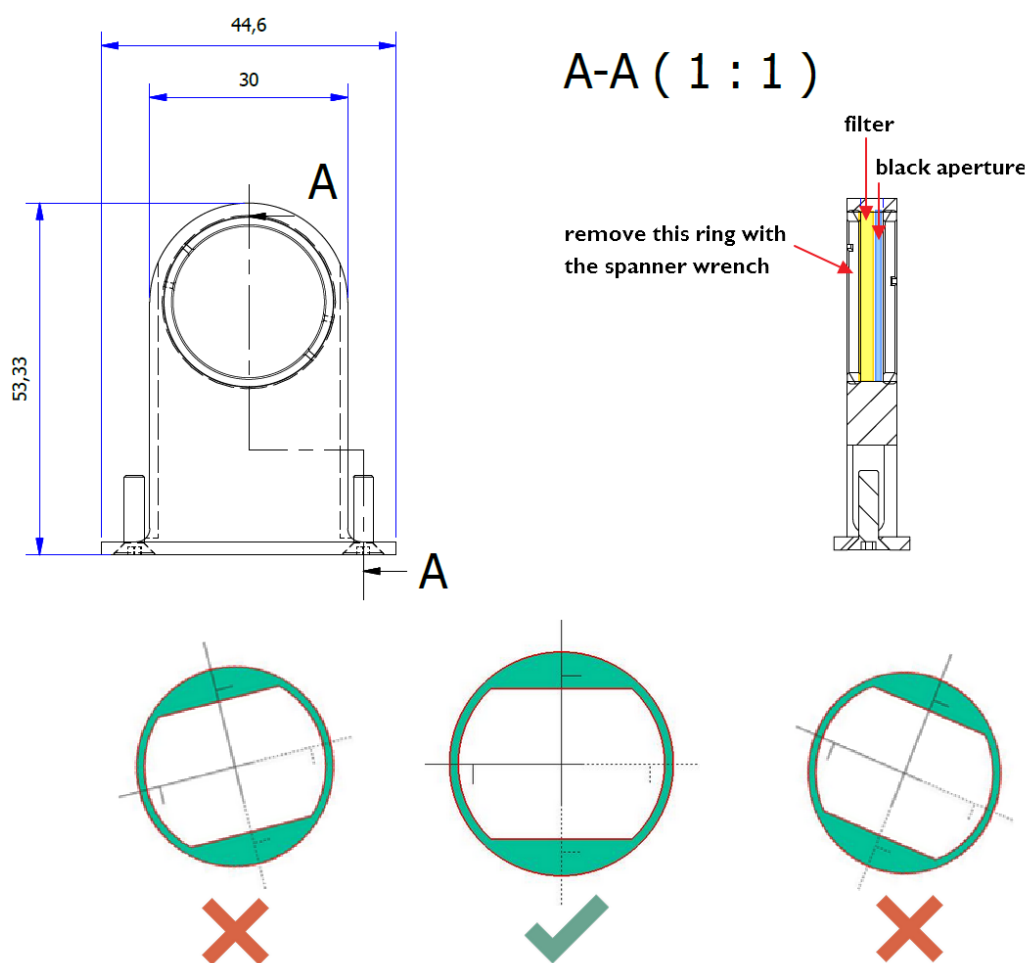

Figure 36 Filter cassette schematics, with position of the filter indicated. The bottom section of the figure shows the correct position of the black aperture.
Step 5.2 Mount/change filter (Figure 35, Figure 36)
- d. Wear gloves. Place the cassette, with the black aperture side, down onto a stable surface. The bottom side is the side that was closest to the sensor, the top side was closest to the lens. Use the spanner wrench to carefully unscrew the retaining ring, as indicated on Figure 36.
Place the filter cassette in the upright position, as shown in Figure 36. Check if the black aperture insert is still in the correct position: the inside top and bottom of the aperture should create horizontal line. If this is not the case, you can slightly rotate the retaining ring, on the aperture's side. Tighten the ring on the filter's side afterwards, to ensure that the filter stays well in place. If you gently shake the filter holder, you should hear no noise.